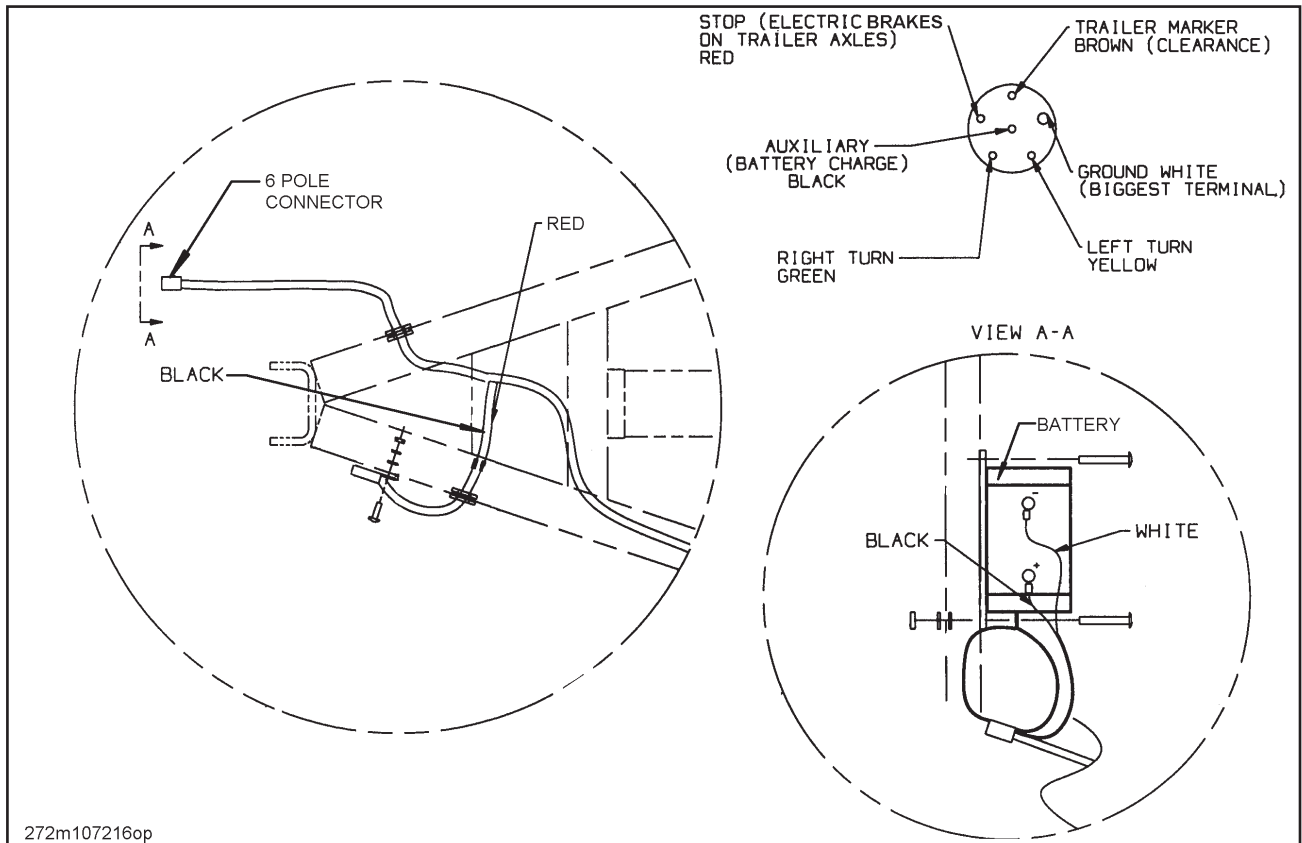

Figure 3-1 Electrical Diagram
**THE TRAILER IS WIRED ACCORDING TO FIGURE 3-1. BE SURE THE TRUCK ELECTRICAL MATCHES TO ELIMINATE ANY POTENTIAL ELECTRICAL PROBLEMS.**